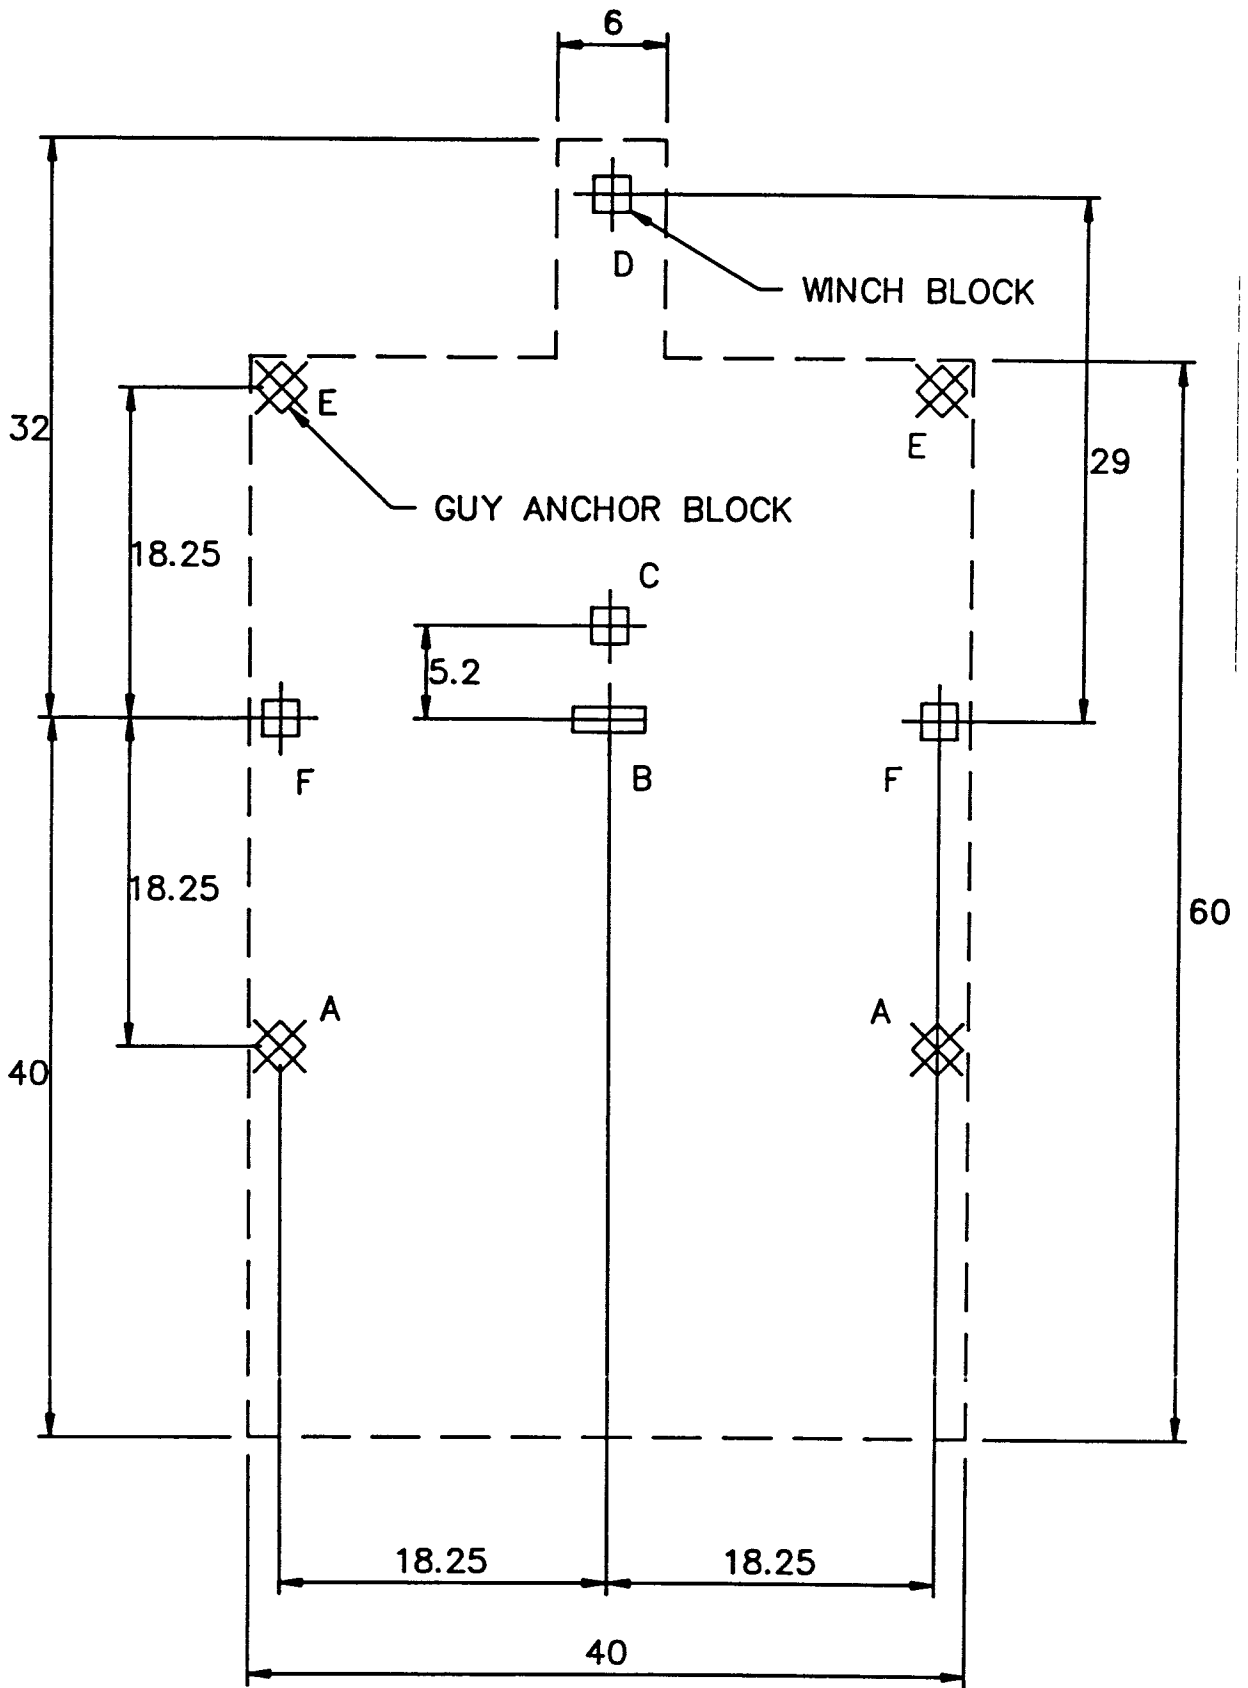

Fig 1 Site Plan— dimensions in metres
18.3 Shackle a Tirfor winch type T13 (item 4) to chain (item 5) using a 1 3/4 ton shackle (item 3) and shackle the chain to guy anchor block (see Fig.1) using a second 1 3/4 ton shackle (item 3). Similarly, shackle a second winch and chain to the other guy block A.